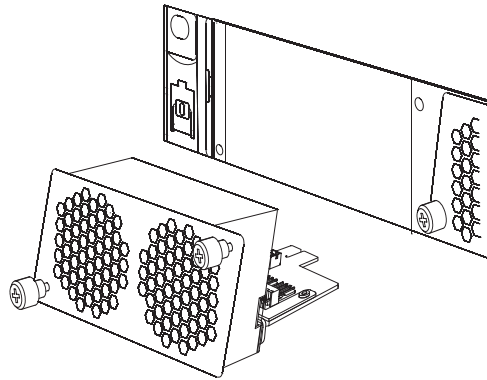
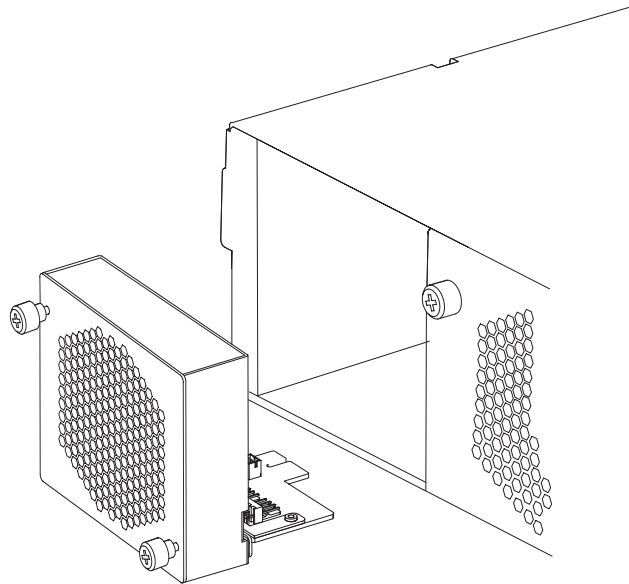

Figure 21. Removing a fan module on a Type 7198 appliance
Figure 22. Removing a fan module on a Type 7199 appliance
4. Remove the fan module, as illustrated in Figure 21 or Figure 22.